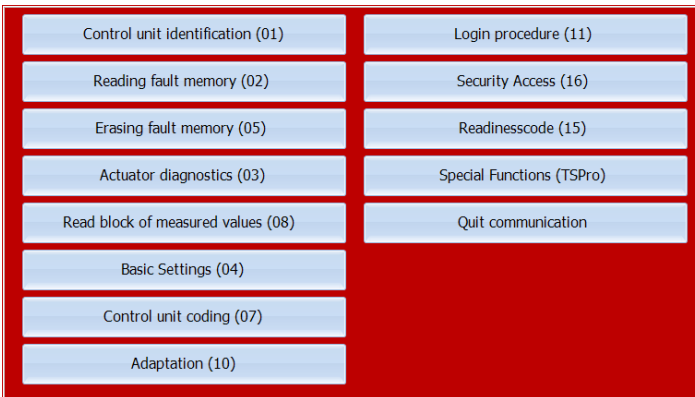

Figure 5.5
You have to start connecting procedure after turning on the ignition and clicking the corresponding button (2). Then, if the connection was successful, a Diagnostic menu appears (Figure 5.5).